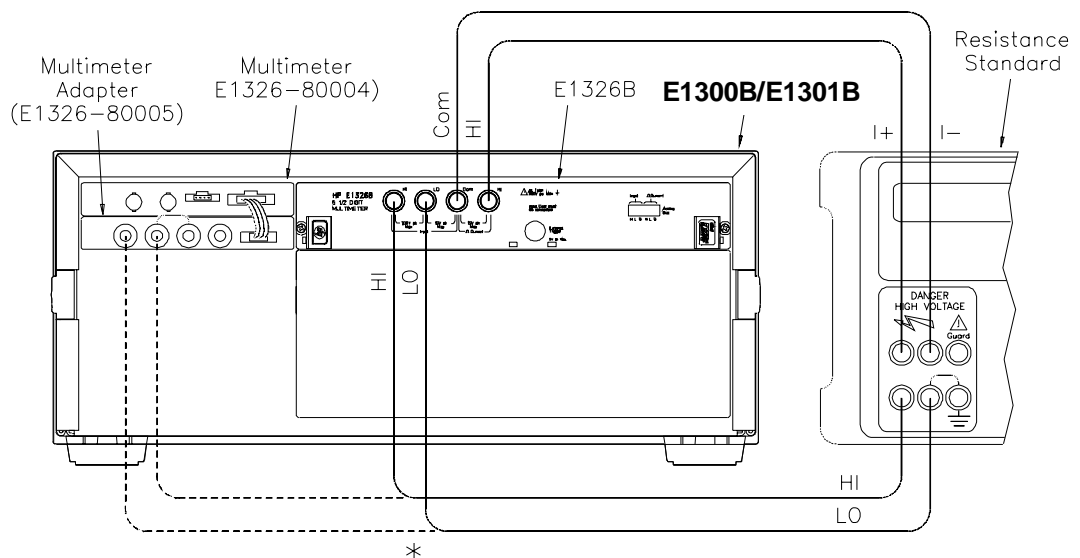

Figure 4-4. Resistance Test Setup
1. Connect the equipment as shown in Figure 4-4. You can connect to the E1326B OR to the E1326-80005, but not to both.